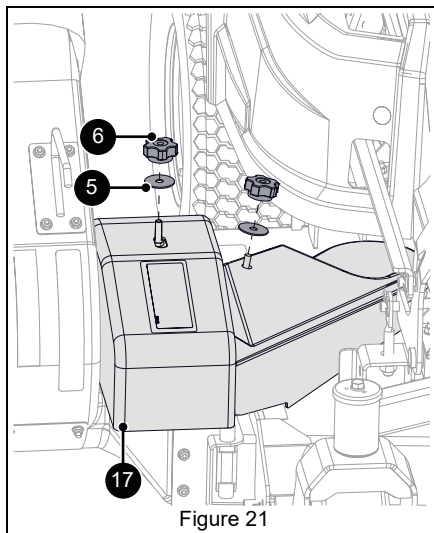

Figure 21
2. Position belt cover (item 17) over deck and idler assembly and secure with two 3/8" x 1 1/2" flat washers (item 5) and two clamping knobs (item 6). See Figure 21.
5. Remove belt cover from mower deck and blower and idler assembly. See Figure 21.